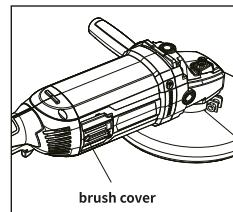

Fig 8
1. Regularly remove and check the carbon brushes. Replace them when the tool produces obvious sparks or when the brush cover wears down to the limit mark (Fig 8).